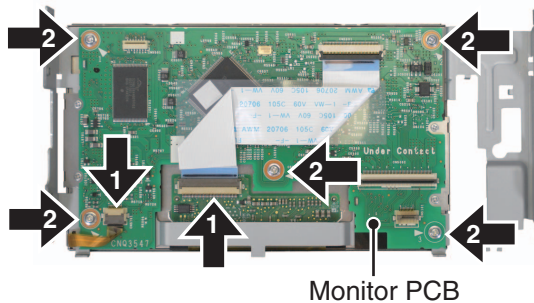

Fig.4
● Removing the Monitor PCB (Fig.4)
- 2.Remove the solder on the lead for the CRG motor. (Fig. 4)